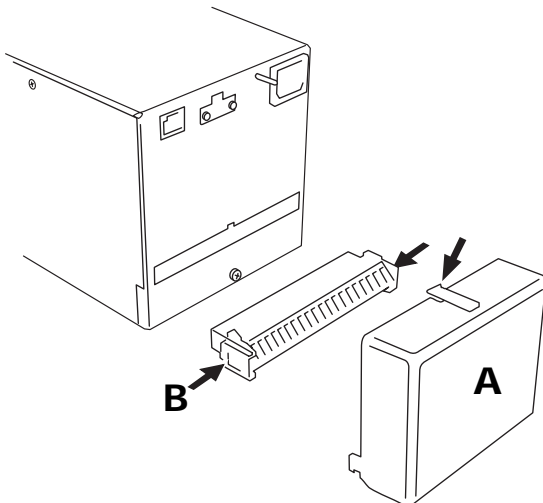

Figure B3.2a Remove terminal cover and connector
2. Remove the rear terminal cover (A) by pressing down on the catch and lifting off. Remove the input connector (B), by pressing-in on the end clips and pulling on the connector (figure B3.2a).